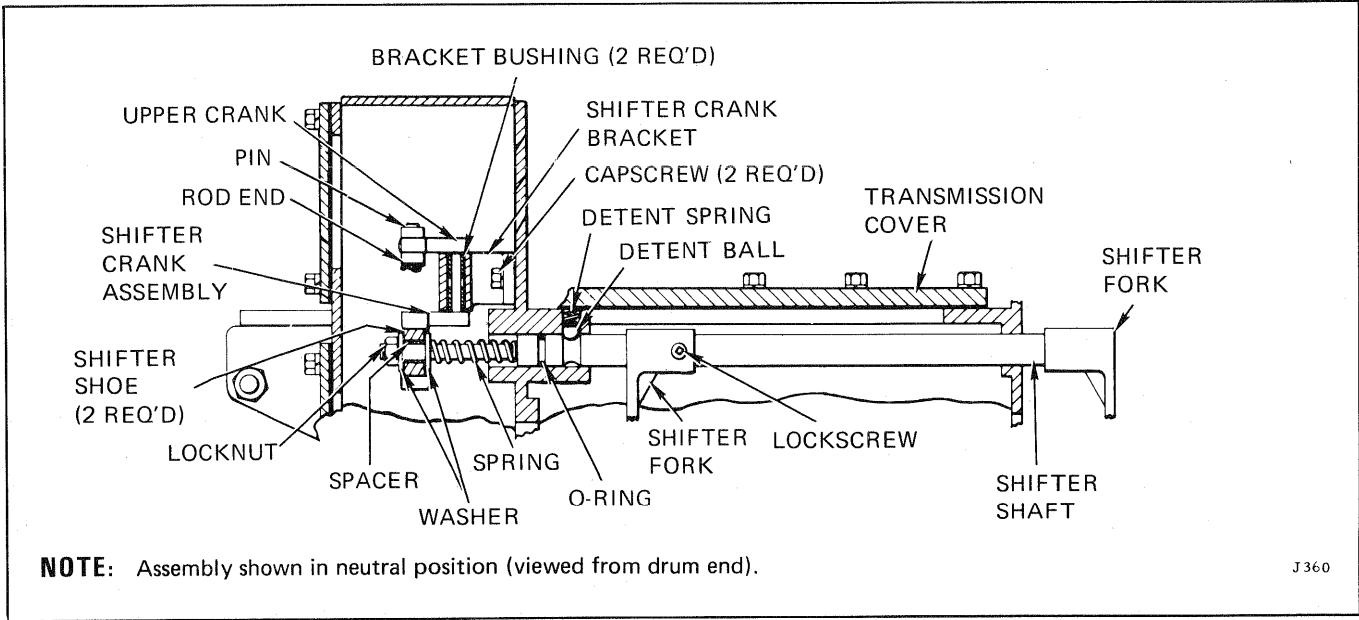

FIGURE 4-3. DIRECT DRIVE SHIFTER ARRANGEMENT
Plugged suction filter.	Remove suction filter, clean, and replace. See Figure 4-3.
4-11. **ADJUSTING CLUTCH HANDLEVER.** (See Figures 4-3 and 4-5.) The Clutch Handlever (see figure 2-1) controls the dental clutches through a plastic-lined control cable. The shifter assembly will shift the dental clutches into Forward, Neutral and Reverse positions when the control cable to the clutch handlever is properly adjusted. To adjust the position of the clutch handlever, proceed as follows:
a. Remove the LH upper access cover and place the shifter assembly in Neutral (see Figure 4-3). The shifter linkage will positively detent to this position.